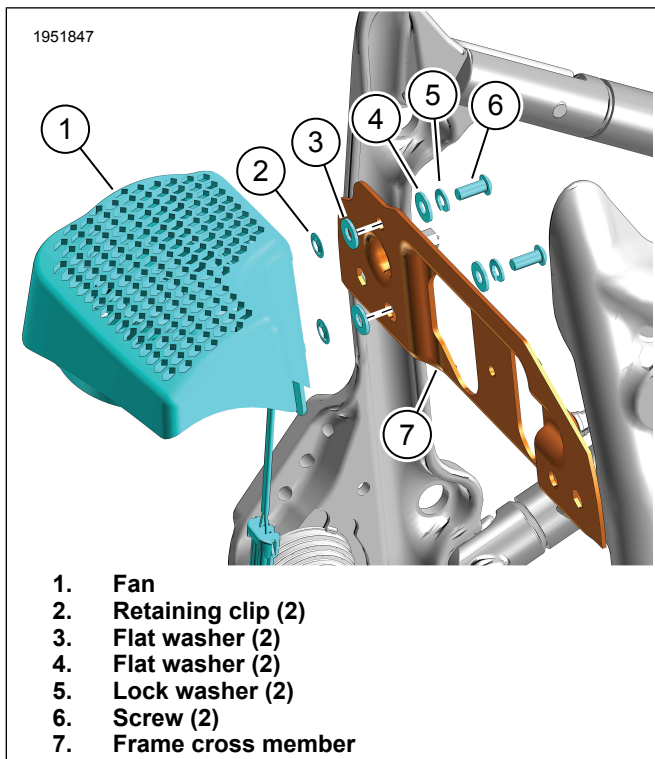

Figure 3. Install Fan to Cross Member
2. See Figure 3. Install CoolFlow Fan assembly.
- a. From within battery tray area, install screw (6), lockwasher (5), and flat washer (4) through frame cross member (7).
- b. From powertrain area, install flat washer (3) and retaining clip (2).
- d. Position fan (1) assembly to frame cross member (7).
- e. Install screws (6) to fan (1). Tighten.